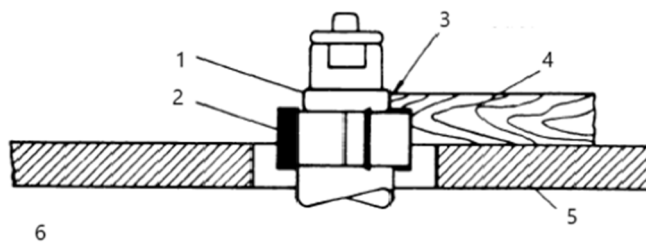

Figure 5
4. Figure 5 illustrates sufficient bearing surface.